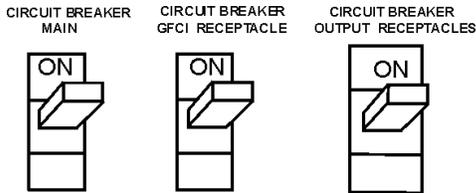

Figure 60. Main and GFCI Circuit Breakers
18. If there are no abnormal problems shown on the "MPEC" LED display, turn the MAIN, GFCI and LOAD circuit breakers to their ON position (Figure 60).